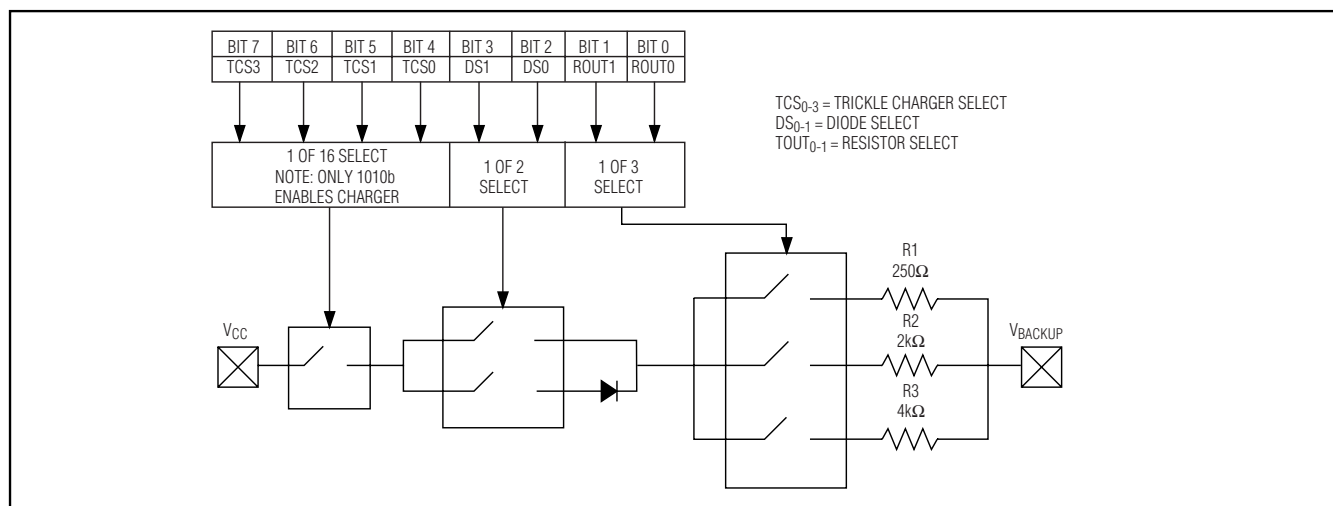

Figure 7. Programmable Trickle Charger
The simplified schematic in Figure 7 shows the basic components of the trickle charger. The trickle-charge select (TCS) bits (bits 4–7) control the selection of the trickle charger. To prevent accidental enabling, only a pattern of 1010 enables the trickle charger. All other patterns disable the trickle charger. The trickle charger is disabled when power is first applied. The diode select (DS) bits (bits 2, 3) select whether or not a diode is connected between VCC and VBACKUP. If DS is 01, no diode is selected; if DS is 10, a diode is selected. The ROUT bits (bits 0, 1) select the value of the resistor connected between VCC and VBACKUP. Table 4 shows the resistor selected by the resistor select (ROUT) bits and the diode selected by the diode select (DS) bits.